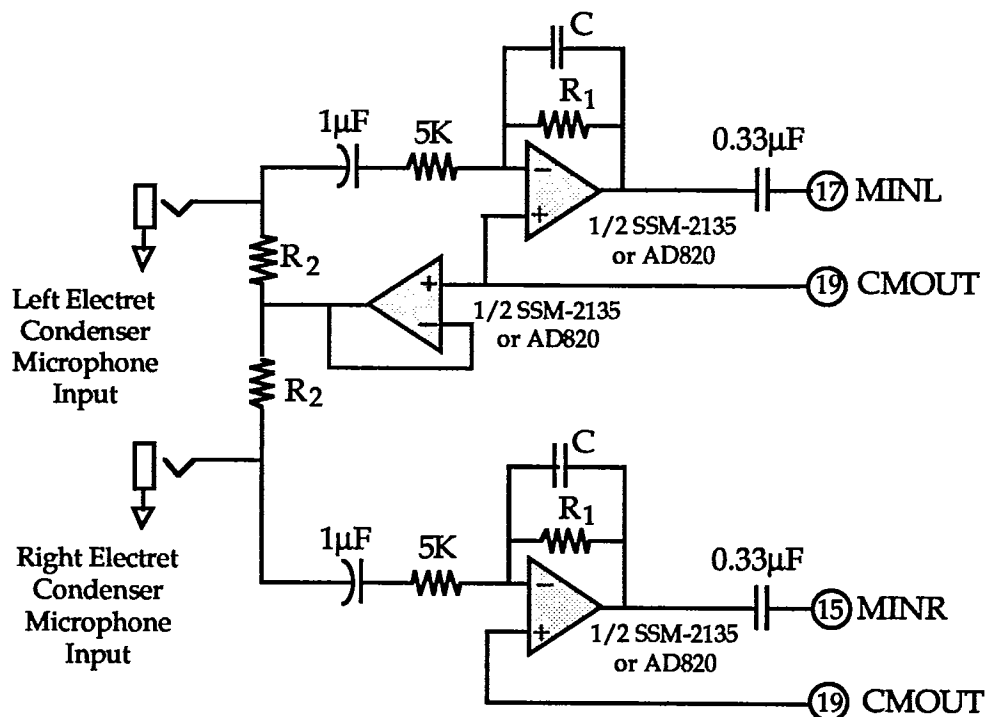

Figure 12. AD1849 "Phantom-Powered" Microphone Input Circuit
- The "Phantom-Powered" Microphone Input Circuit shown in Figure 12 is incorrect. The original figure omitted two important $0.33\ \mu\text{F}$ ac coupling capacitors between the final op amp stage output and the AD1849 input pins. The corrected Figure 12 is shown below: